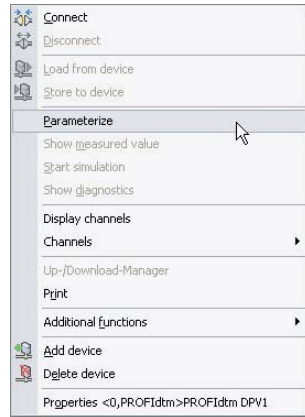

Figure 5.5: Opening the Profibus context menu
2. Select **Parameterization** in the context menu (view Figure 5.5 on page 39).
5. Select **Additional functions** in the context menu (view Figure 5.5 on page 39).